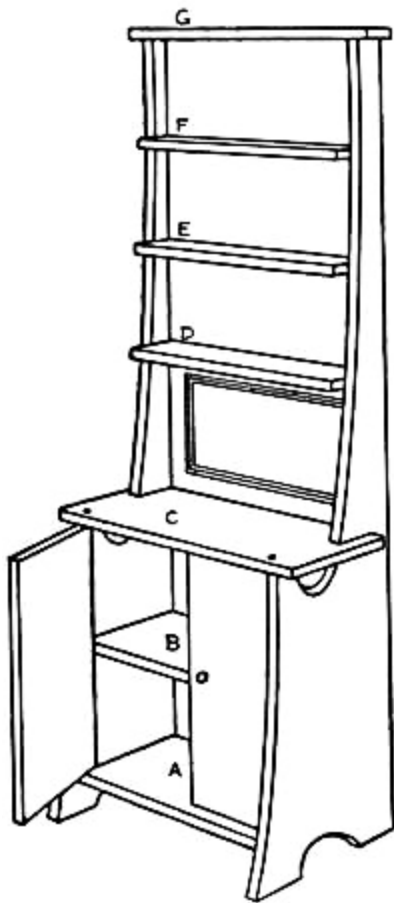

FIG. 132.—A Side-board.
A Side-board similar to Fig. 132 should be made for the dining-room. The pattern for the side pieces is shown in Fig. 122. After sawing
these out, cut a piece seven inches long by three inches wide for the back and fasten the side-pieces to the edges of it. The location of the shelves can be obtained best by referring to Fig. 132 and the pattern in Fig. 122. Cut the bottom shelf (A in Fig. 132) three inches long by an inch and one-quarter wide and fasten it to the side-pieces half an inch above the base (line 24 on pattern, Fig. 122). Make shelf B three by one inches and place it at line 22. C should be three and three-quarters inches long by an inch and one-half wide, with a small notch cut near each end with your knife, to make it fit over the side-pieces (see illustration). Cut shelf D three inches long by half an inch wide, fastening it in place at line No. 17, E three inches long by seven-sixteenths of an inch wide, fastening it at line No. 15, and F three inches long by three-eighths of an inch wide, fastening it at line No. 13. The top shelf (G) is three and three-quarters inches long and half an inch wide and is fastened to the tops of the side-pieces as shown in the drawing.
The lower portion of the side-board is enclosed with two doors two inches high by an inch and one-half wide. Small pieces of cloth may be used for hinges, but it is better to use pins, running them through the shelf above and below (A and C, Fig. 132) into the doors. Stick the pins near the edge of the doors and see that they are straight, so the doors will open